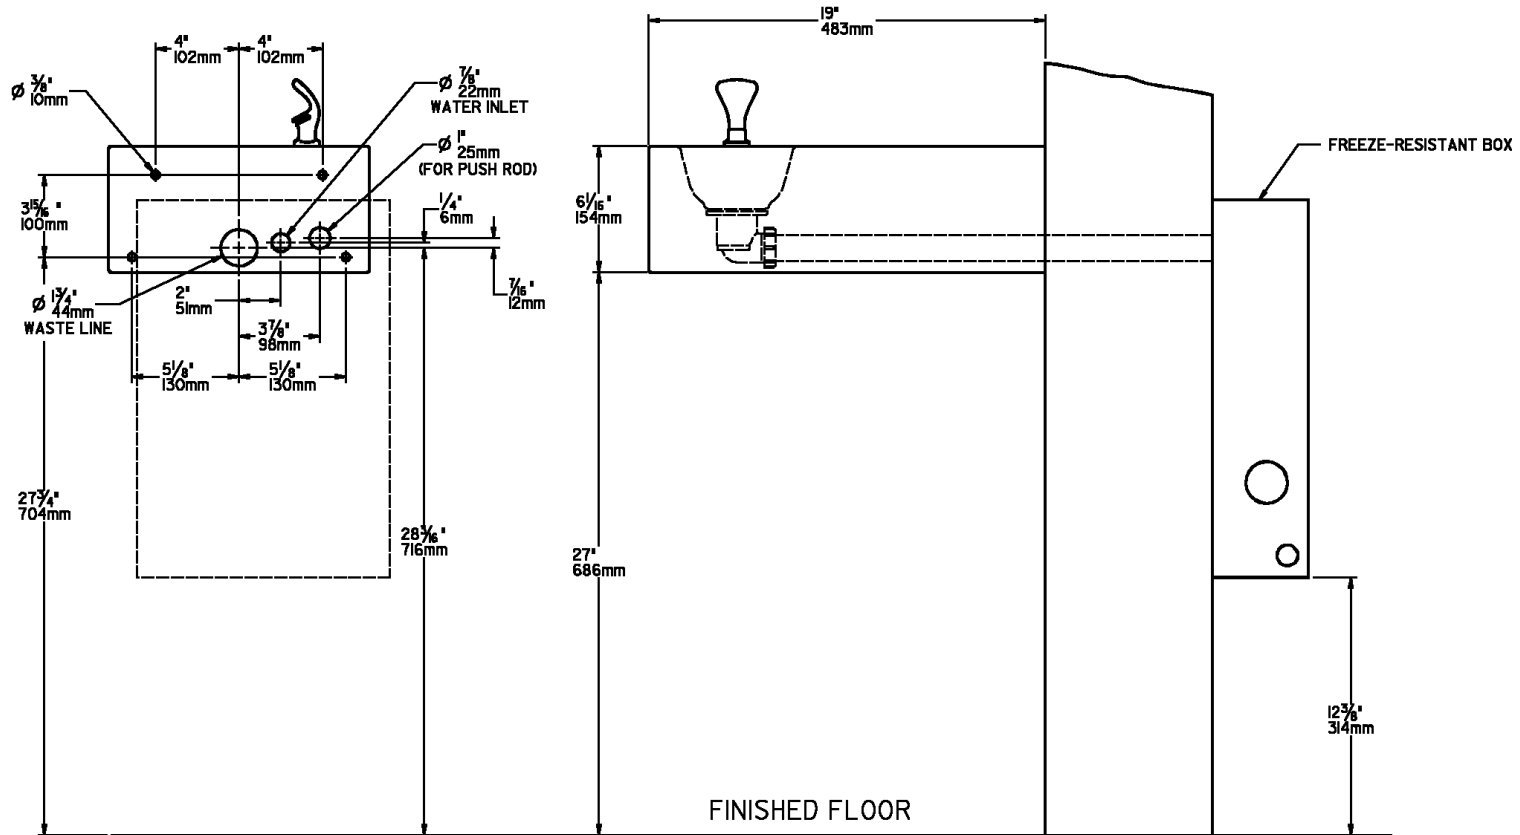

FIG. 3
1. Wall should already be framed for the fountain using dimensions shown in Fig. 3. Shown dimensions pertain to installation location. These dimensions are required for compliance with ANSI Standard A117.1. (and ADA) (Framing shown for reference only).